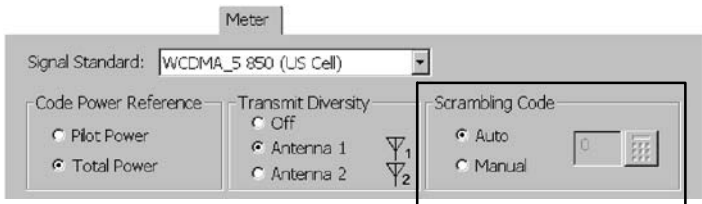

Figure 3-55: Setting the scrambling code
3. Tap the **Meter** tab. See Figure 3-55.